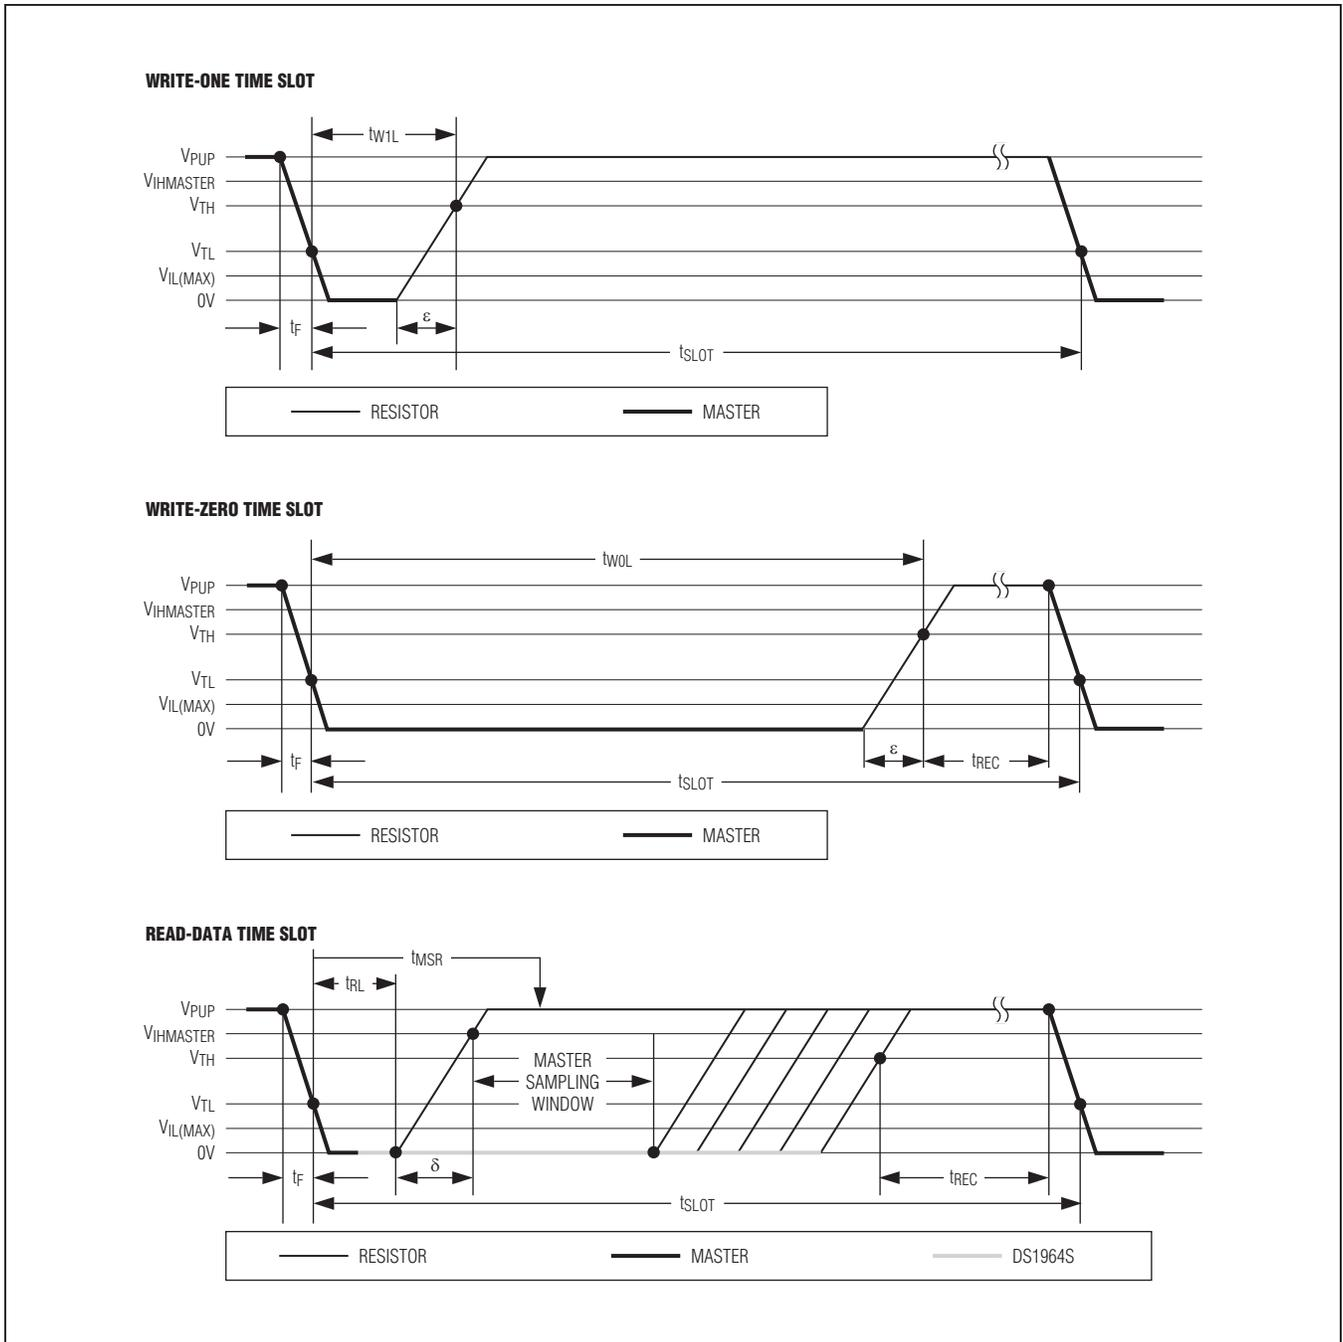

Figure 6. Read/Write Timing Diagrams
- Note 16:** ε in Figure 6 represents the time required for the pullup circuitry to pull the voltage on IO up from VIL to VTH. The actual maximum duration for the master to pull the line low is tW1L(MAX) + tF - ε and tW0L(MAX) + tF - ε, respectively.
- Note 17:** δ in Figure 6 represents the time required for the pullup circuitry to pull the voltage on IO up from VIL to the input-high threshold of the bus master. The actual maximum duration for the master to pull the line low is tRL(MAX) + tF.
Data communication with the DS1964S takes place in time slots that carry a single bit each. Write time slots transport data from bus master to slave. Read time slots transfer data from slave to master. Figure 6 illustrates the definitions of the write and read time slots.